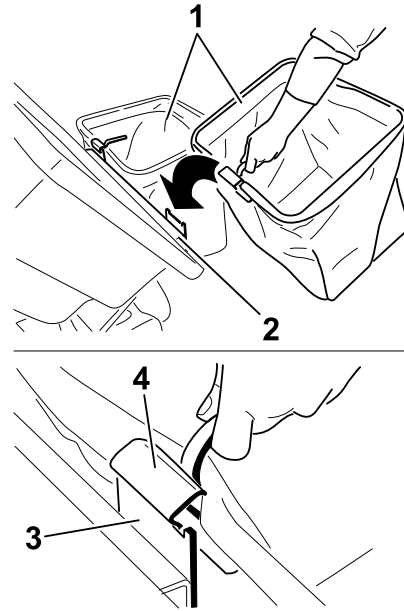

Figure 22
- Lift the bagger top and install the bags by sliding the bag frame hooks onto the retaining brackets (Figure 22).